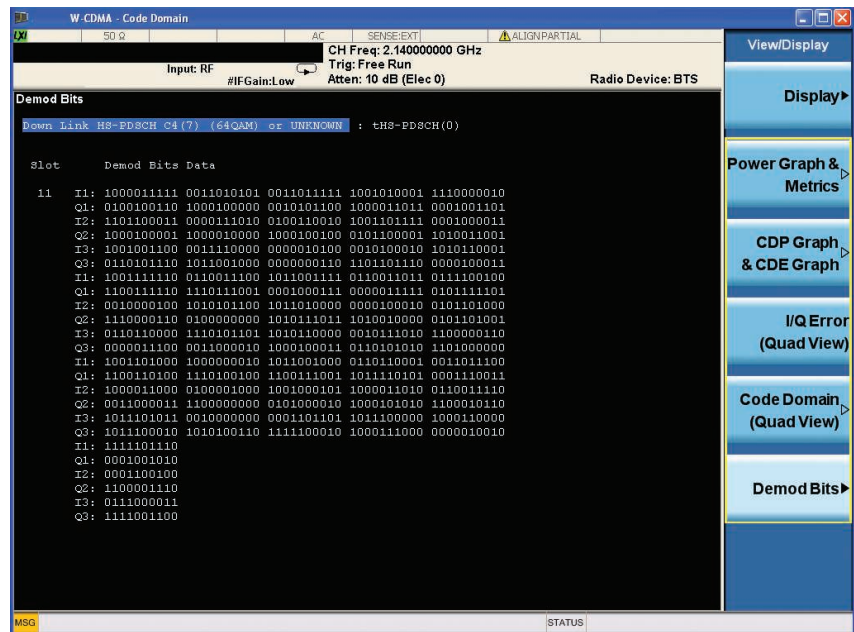

Figure 17. Demod bits view of HS-PDSCH in 64QAM
To see entire demod bits data, of C4(7) HS-PDSCH in 64QAM, select window to zoom in (Figure 17).	[Next Window] to move selected window to demod bits. [Zoom] (These window control keys are available on the bottom of display)